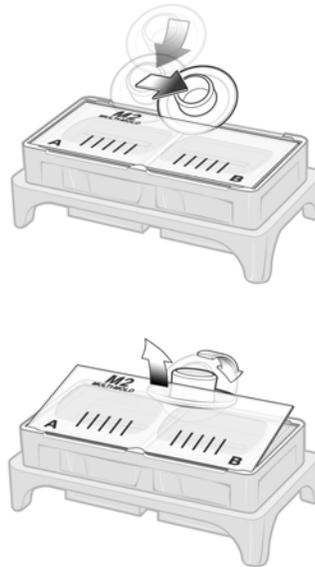

Figure 2
5. Refer to Figure 2 below. Remove the vacuum cap/slide key from the bottom of the cassette. Insert the slide key (clean with an alcohol wipe if necessary) **between the collection slide and cassette edge adjacent to the center bar, and slowly slide to center of cassette.** Slowly turn the key upward until resistance is felt, continuing slowly until the slide has lifted up. Remove the slide from the cassette.